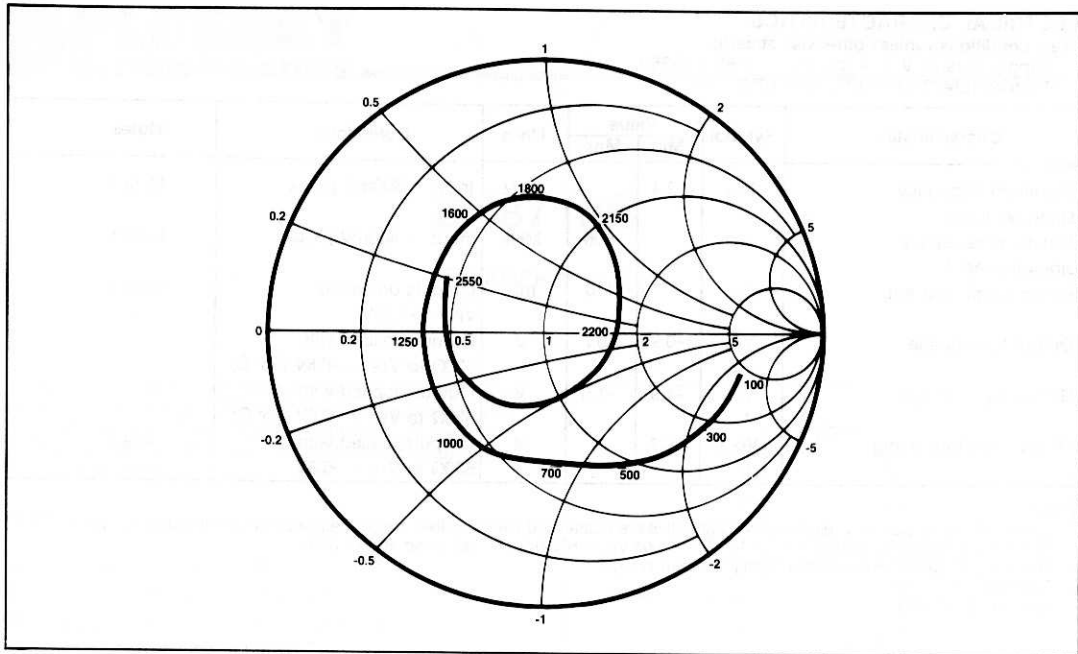

Fig.4 Typical input impedance. Test conditions: supply voltage -6.8V, ambient temperature 25° C. Frequencies in MHz, impedances normalised to 50 ohms.
1. The clock input (pin 4) should be capacitively coupled to the signal source. The input signal path is completed by connecting a capacitor from the internal bias decoupling pin (6) to ground.
4. The input impedance of the SP8712 is a function of frequency. See Fig.4.